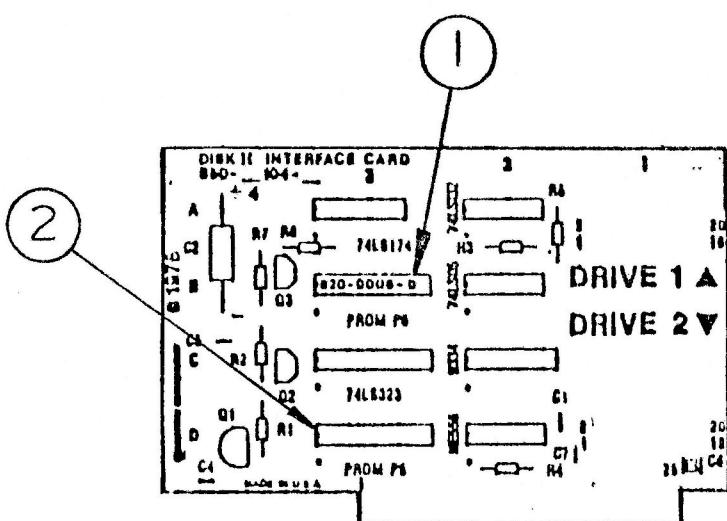

FIGURE 7
- IPL.7 Disk Controller Card (Figure 7)
DISK CONTROLLER CARD (Figure 7)